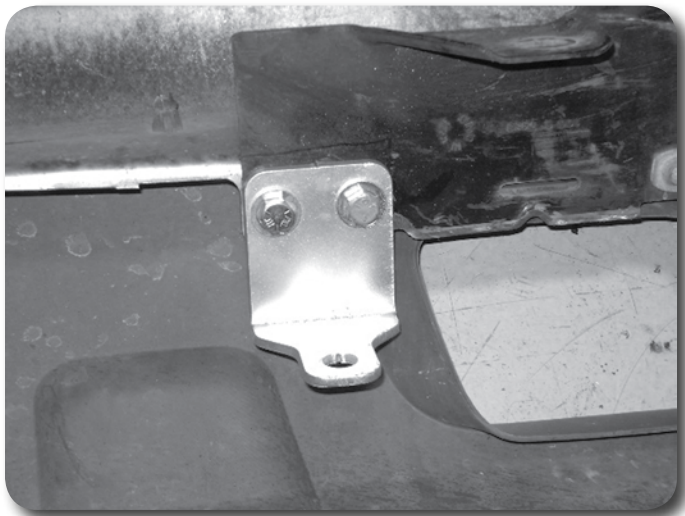

Figure 22
45. Drill a 7/16" hole at the marks made. Attach the new brackets to the bumper with the provided 7/16" x 1-1/4" bolts, nuts and washers. Mount so the bolt heads on the new bracket side as shown in Figure 22. Be sure the vertical edges of the new and original brackets are aligned and torque 7/16" hardware to 45 ft-lbs.